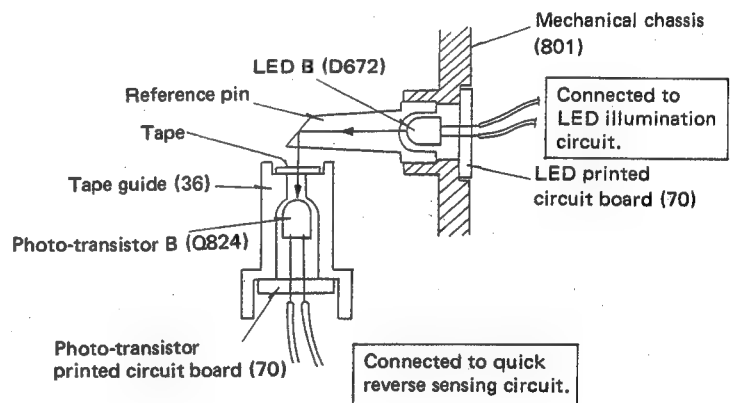

Fig. 30
This mechanism senses the leader tape portion in start and end of winding of the tape and inverts the combination head B (4) instantaneously. The cross section of this mechanism is shown in Fig. 30.